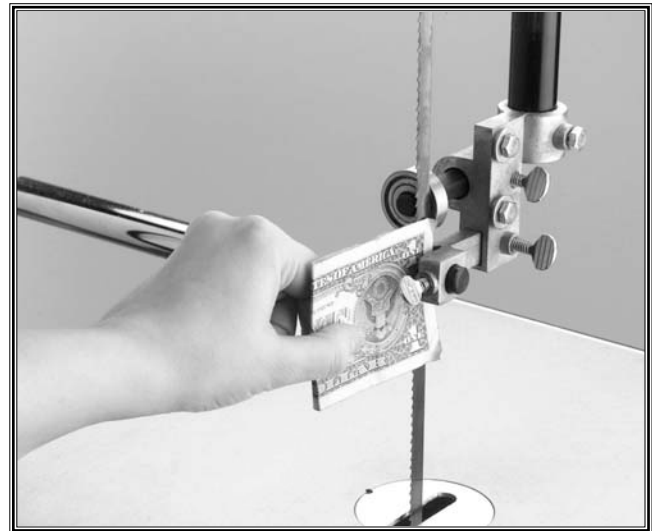

Figure 40. Guide block position on blade.
4. The ideal distance that the guide blocks should be set from the blade is .004 in. Again, if you have a feeler gauge use it; otherwise, the single thickness of a dollar will be fairly accurate. Fold the dollar once and slide the open end over the blade, so the dollar covers each side of the blade. **See Figure 40.**